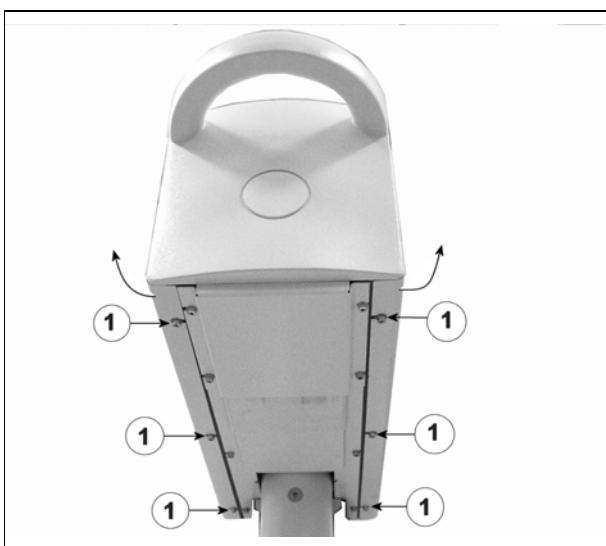
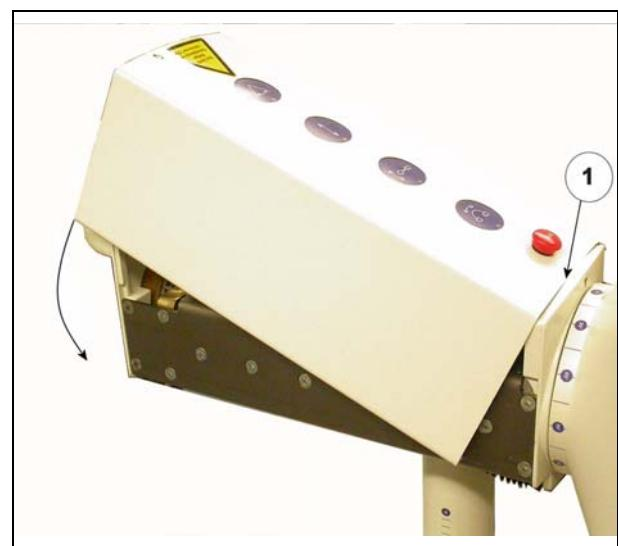

Fig. 6
Fig. 7
Fig. 6 and Fig. 7 are examples and show the cover of the SIREMO-BIL Iso-C.
- Loosen the 6 mounting screws (1/Fig. 6).
Expand the cover at the rear end (see Fig. 6) so far that as shown in Fig. 7 it lies obliquely over the horizontal carriage in the edge 1/ Fig. 7.
- Expand the cover at the rear end (see Fig. 6) so far that as shown in Fig. 7 it lies obliquely over the horizontal carriage in the edge 1/ Fig. 7.
- Press on the top surface of the cover, without grasping the sheet metal edges, until this slides over the lower edge of the horizontal slide. Here make sure that the cover does not slide out from the edge (1 / Fig. 7).
- Fasten the cover with the 6 Allen screws (1 / Fig. 6).